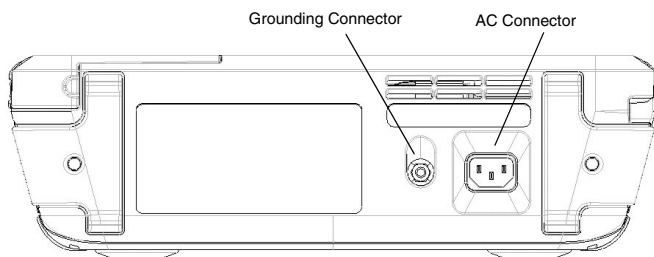

Figure 3. Rear panel of the PRM.
1. Connect the power cord into the AC connector on the rear panel (Figure 3).